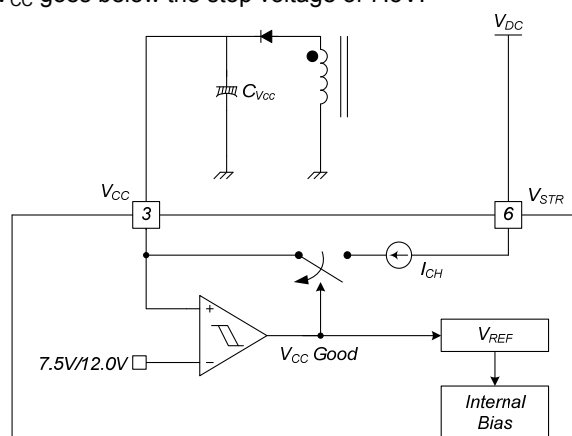

Figure 17. Startup Block
**1. Startup:** At startup, an internal high-voltage current source supplies the internal bias and charges the external capacitor ( $C_{VCC}$ ) connected to the  $V_{CC}$  pin, as illustrated in Figure 17. When  $V_{CC}$  reaches 12V, the FSL176MRT begins switching and the internal high-voltage current source is disabled. The FSL176MRT continues normal switching operation and the power is supplied from the auxiliary transformer winding unless  $V_{CC}$  goes below the stop voltage of 7.5V.